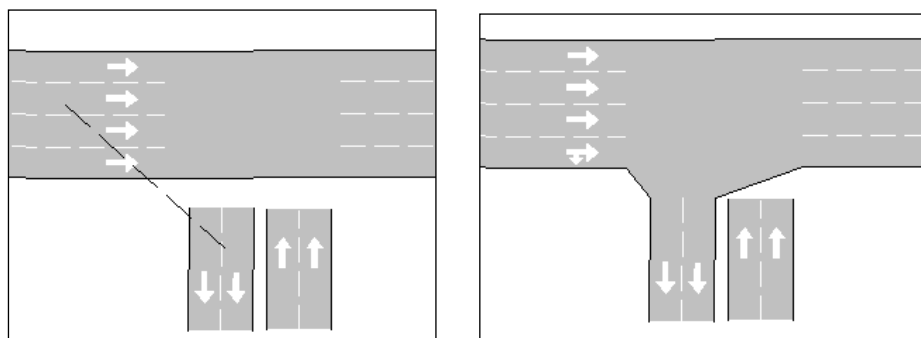

Figure 207 Creating a turn with the connection tool
- If the Ctrl key is not pressed and the origin section or the destination one have all its lanes already involved in a turn, then the new turn will use the rightmost or leftmost lane of the sections that have all their lanes already involved in turns or the lanes that are still not assigned in the sections if any. In Figure 207, an example where the origin section has all its lanes already involved in a turn is shown.